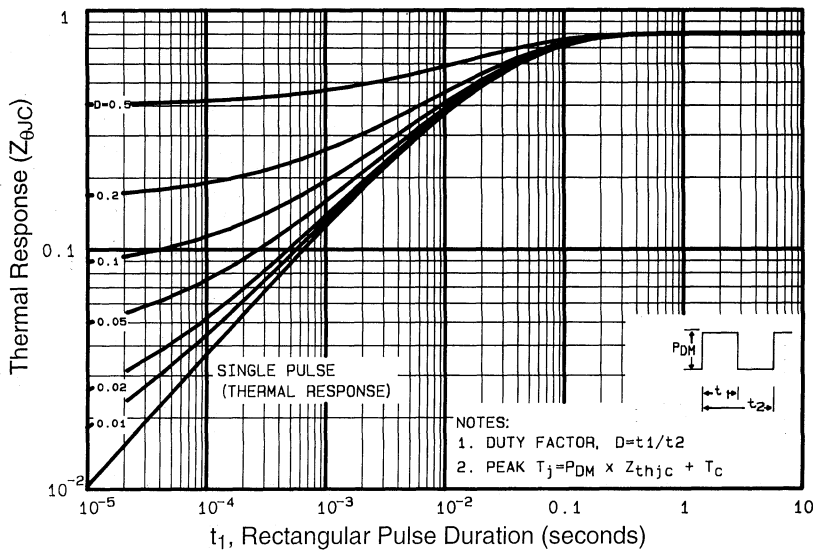

Fig 11. Maximum Effective Transient Thermal Impedance, Junction-to-Case
- ① Repetitive rating; pulse width limited by max. junction temperature. (See fig. 11)
- ② $V_{DD} = 25V$, starting $T_J = 25^\circ\text{C}$, $L = 22\mu H$